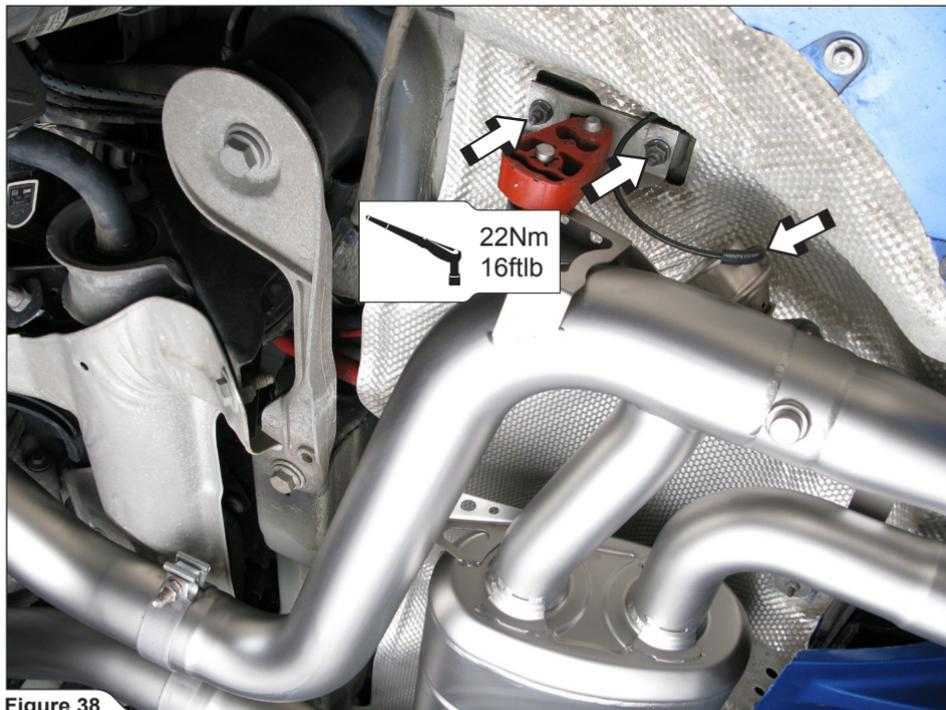

Figure 38
16. Slide the muffler all the way onto the collector, align the pipes, **hand** tighten the clamps and tighten both rubber brackets onto the chassis. Connect the vacuum hoses onto the vacuum actuators (**Figure 38**).